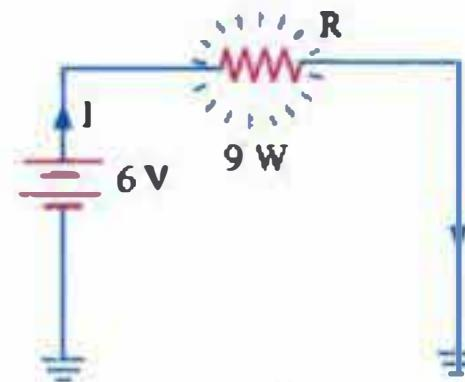

Fig. 1.18
4. Compute the value of resistor R in Fig. 1.18 if power dissipated by it is 9 W. [4 Ω]